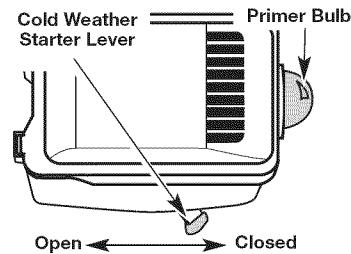

Fig. 9
**IF COLD...** For cold weather conditions (below 40°F), flip the Cold Weather Start Lever (Fig. 9) back to the closed position and continue to step 3. DO NOT flip this lever back if the temperature is above 40°F.
- Fully press and release the primer bulb 10 times, slowly. Some amount of fuel should be visible in the primer bulb (Fig. 9). If fuel can not be seen in the bulb, press and release the bulb until fuel is visible.
**IF COLD...** For cold weather conditions (below 40°F), flip the Cold Weather Start Lever (Fig. 9) down to the start/closed position and continue to step 3. DO NOT flip this lever down if the temperature is above 40°F.
**5. Do Not squeeze the throttle control,** press and hold the Plug-In Power Start or drill's **ON (I)** button for 2 second intervals until unit starts.